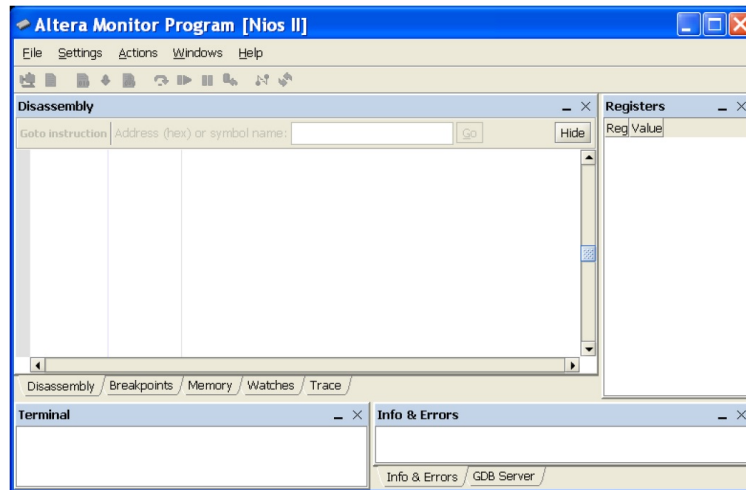

Figure 2: The Altera Monitor Program Window.
2. Open the Altera Monitor Program, which leads to the window in Figure 2.